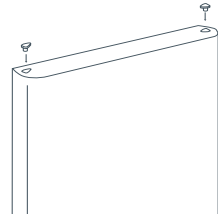

Fig.4 Door hinge bearing
- Move the hinge bearing on the door to the opposite side of the top of the door (refer Fig.4).